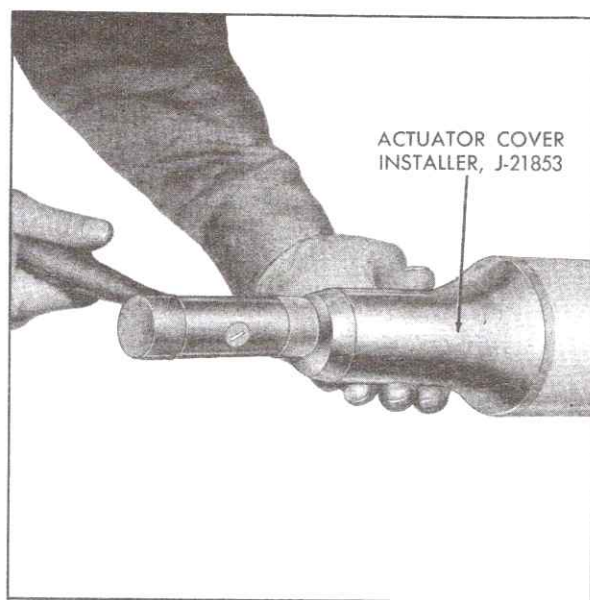

Fig. 9-58 Installing Actuator Cover
34. Install actuator cover on housing using Actuator Cover Installer, J-21853, Fig. 9-58. Support steering column in the bowl area so that it is not damaged when the cover is driven on. Tap lightly. Push hazard warning switch operating pin so that it will not be damaged by the cover.